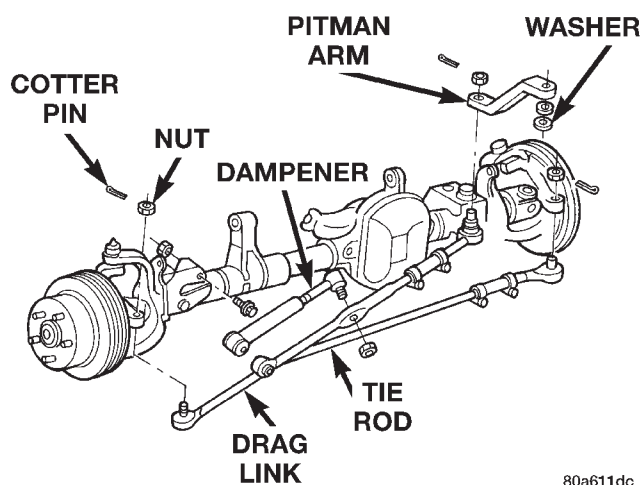
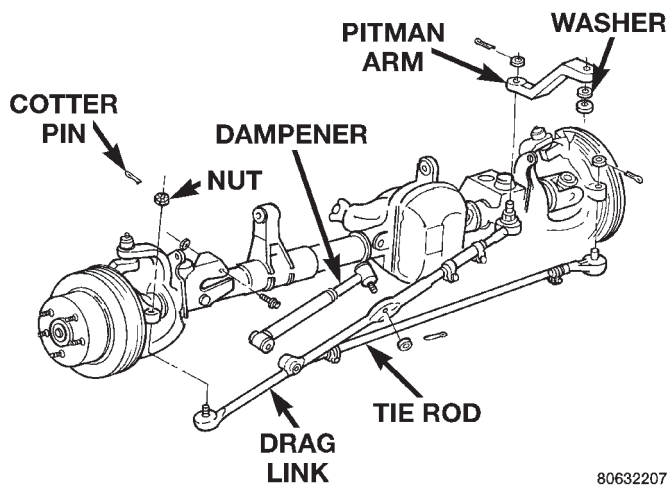

Fig. 2 Steering Linkage-8 Cylinder Engine
Fig. 1 Steering Linkage-6 Cylinder Engine
The steering linkage consists of a pitman arm, drag link, tie rod, and steering dampener (Fig. 1) and (Fig. 2). Adjustment sleeves are used on the tie rod and drag link for toe and steering wheel alignment.
- (1) Remove the cotter pins and nuts at the steering knuckle and drag link (Fig. 1) and (Fig. 2).
- (2) Loosen the ball studs with a puller tool to remove the tie rod.
- (3) If necessary, loosen the end clamp bolts and remove the tie rod ends from the tube.